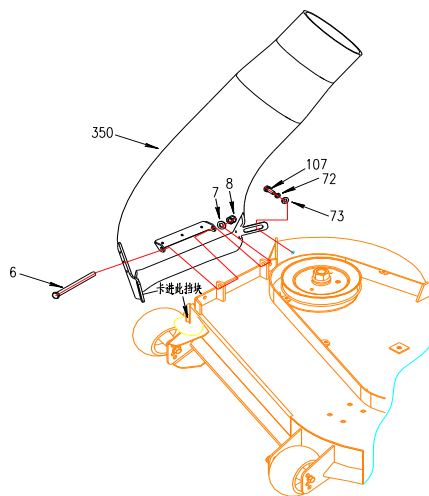

FIG 2
- 2) Install the deck discharge tube. Place slot on outside edge of deck discharge tube (350) over welded tab on outside edge of mower deck. Line up top bracket holes of deck discharge tube with holes in tabs welded to top of deck discharge. Insert bolt 6, add washer and nut (7, 8) and tighten securely. Install bolt 107, add washer and nut (72, 73) and tighten securely. (FIG 2)